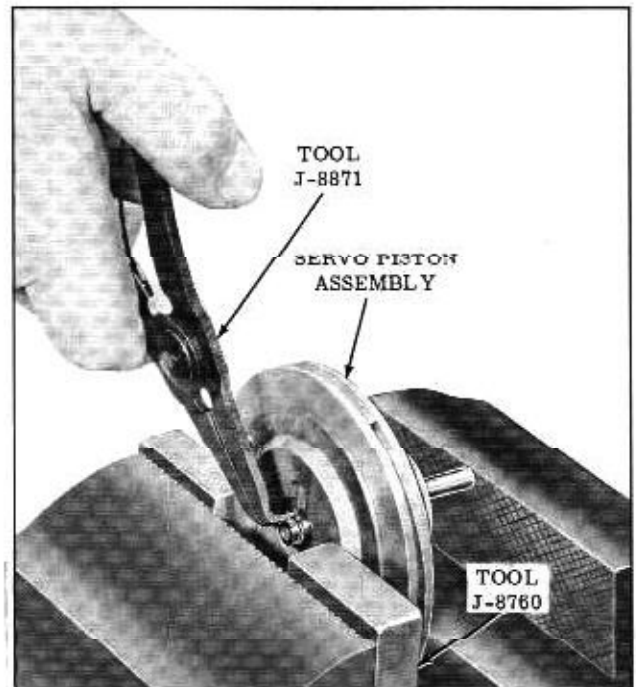

Fig. 3-75 Servo Piston Retaining Ring
1. Place Tool J-8760 against servo piston, clamp in vise to remove retaining ring and washer. (Fig. 3-75)
2. Place the assembled servo components into a vise and carefully compress the assembly to allow the flat washer and retaining ring to be installed. (Fig. 3-75)